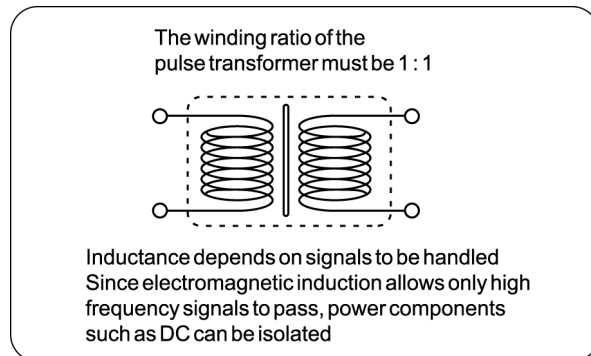

Fig.9.1 Pulse Transformer
- (1) Electronic components (such as circuit boards) containing center ICs and satellite ICs in the HLS can be electrically insulated from the network (Fig. 9.1).
- (2) If there is no pulse transformer and a failure occurs where the driver continuously drives the network, all signal transmissions will cease, forcing the entire user system to stop. If used, a pulse transformer never allows DC components to pass. Therefore, only inoperable terminals fail to transmit signals, having no adverse effect on other terminals.
- (3) If external noise enters the network, a pulse transformer prevents it from reaching receiver components directly. This results in an increased ability to guard against external noise.